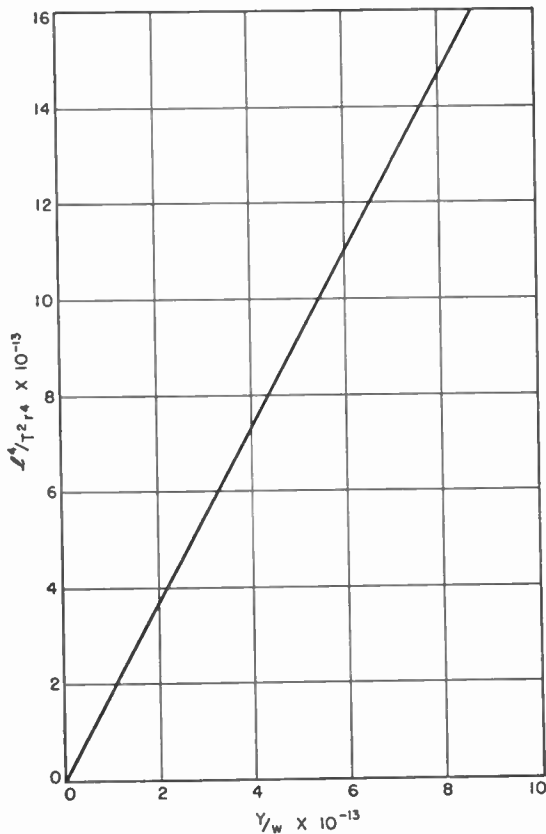

Fig. 2—Evaluation of the empirical equation for the resonant frequency of wires supported between insulators.
To check that the vibration was of the form given in (3) *l*² was plotted against *T* for each type of wire (Fig. 1). Thence a relationship between *Y/w* and *l*³/*T*²*r*⁴ was deduced as in Fig. 2. From the slope of this line the constant *k* was evaluated giving